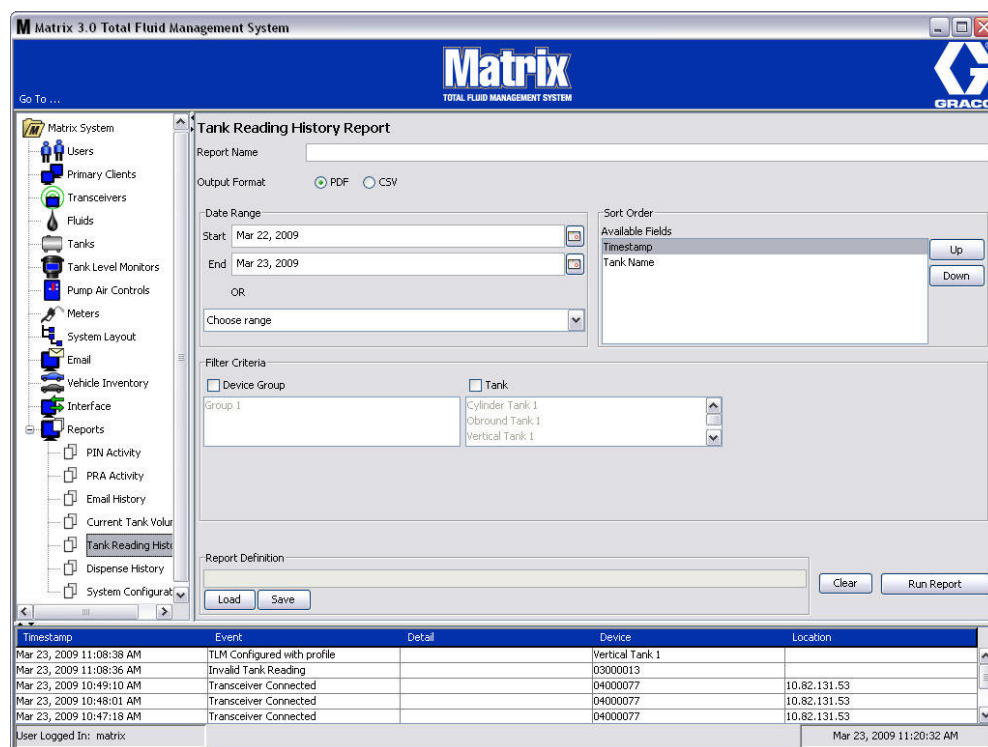

FIG. 175
- Tankmetingsgeschiedenis (FIG. 175)